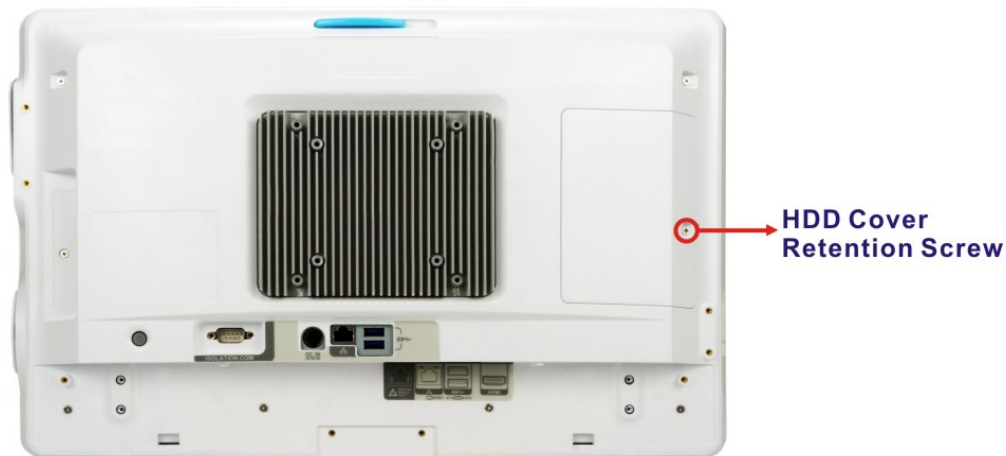

Figure 3-1: HDD Cover Retention Screw
- Step 1:** Remove the retention screw from the HDD cover (**Figure 3-1**).